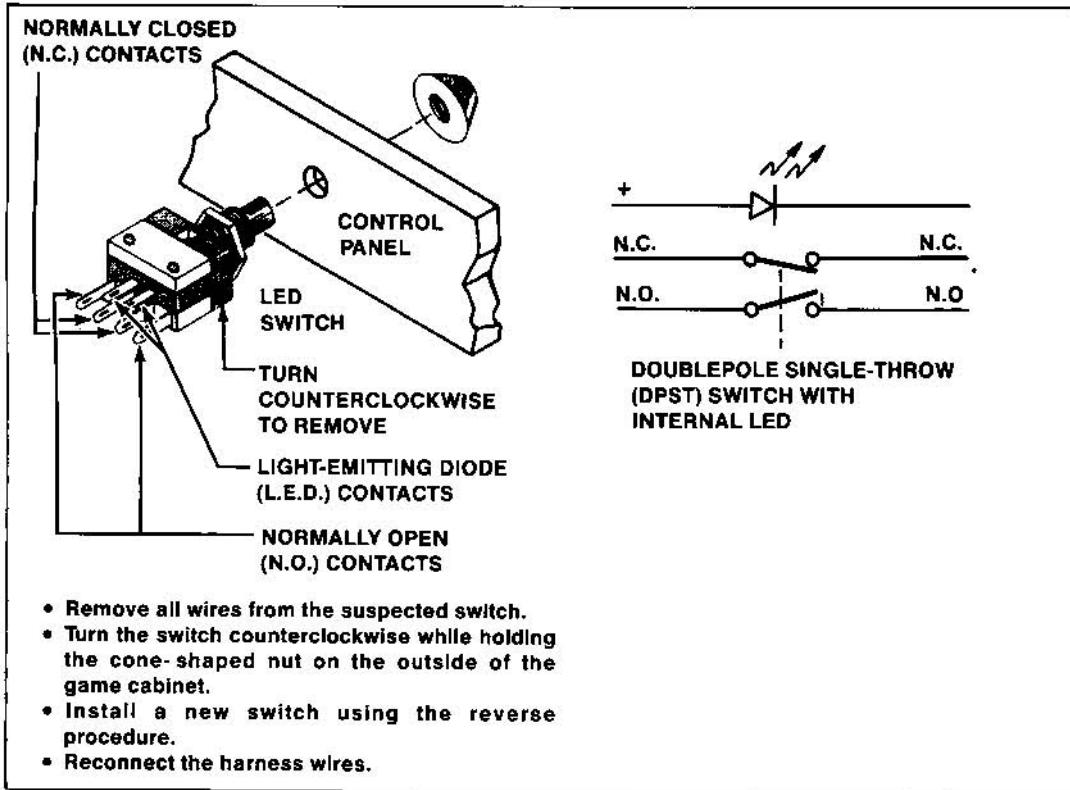

Figure 4-12 LED (LICON) Serve Switch Removal
G. LED (LICON) SERVE SWITCH REMOVAL (See Figure 4-12)
5. Connect multimeter leads to appropriate LED switch contacts. (See Figure 4-12 for designation of switch contacts.)
7. If the contacts do not operate sharply or always remain closed or open, then replace the LED switch as outlined in Figure 4-12.